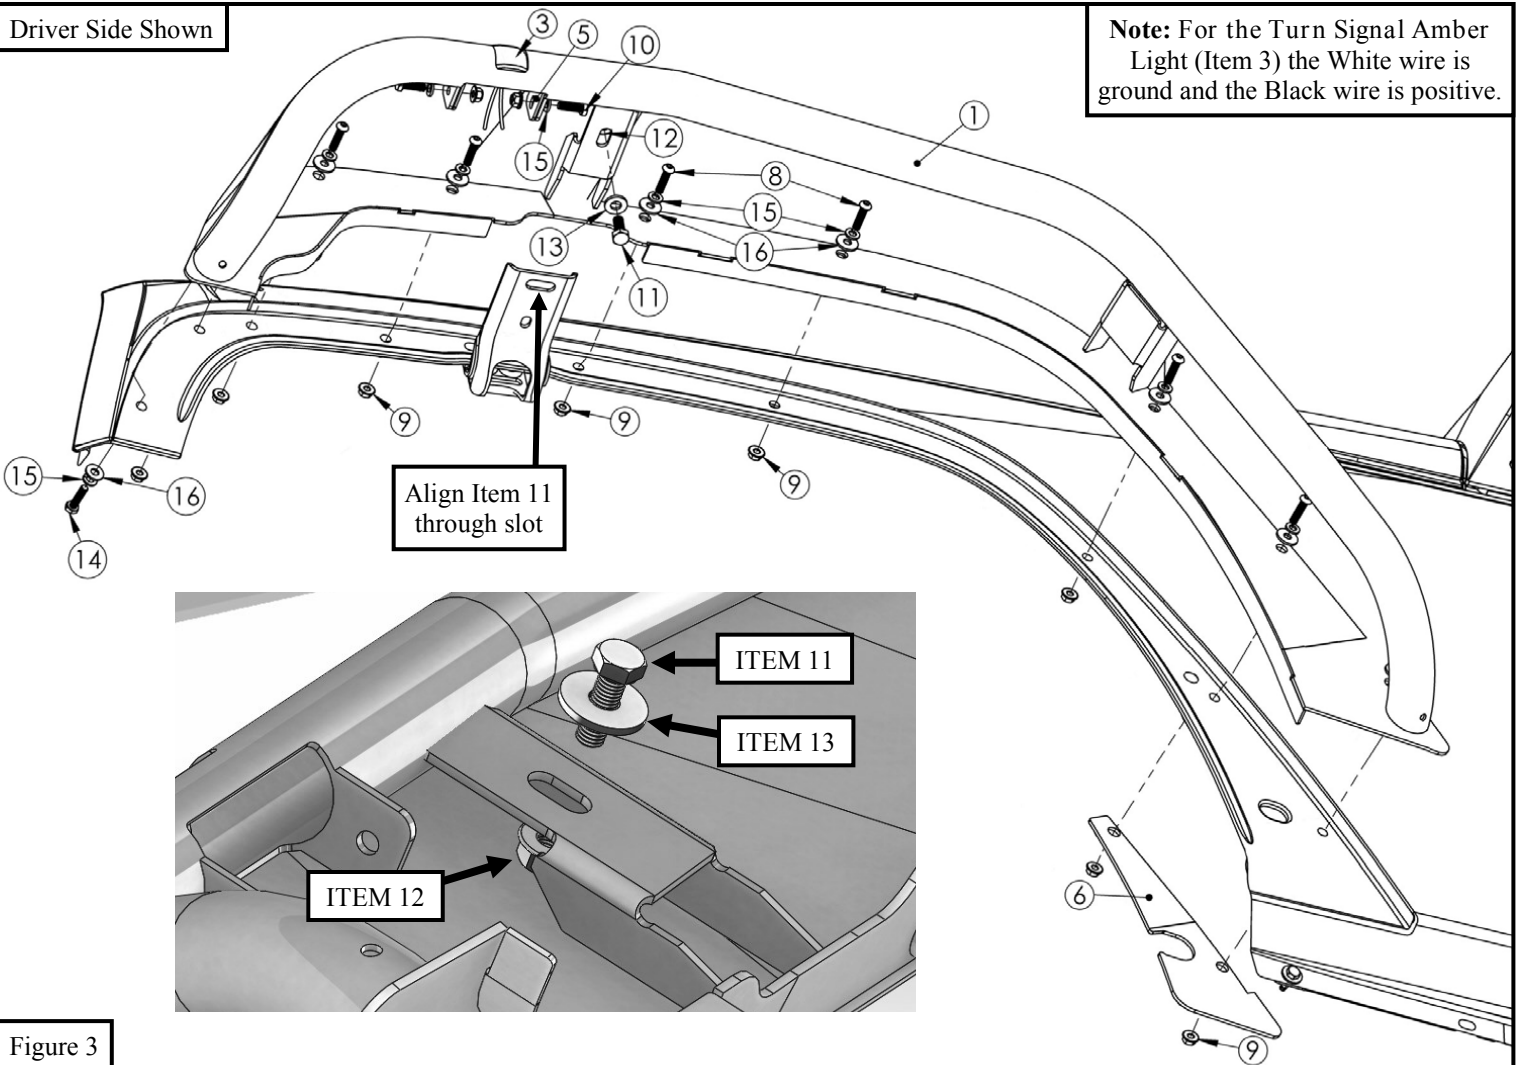

Figure 3
7. Align Front Fender with the vehicles fender area and loosely secure using the provided M6 and M8 hardware. Refer to **Figure 3**.